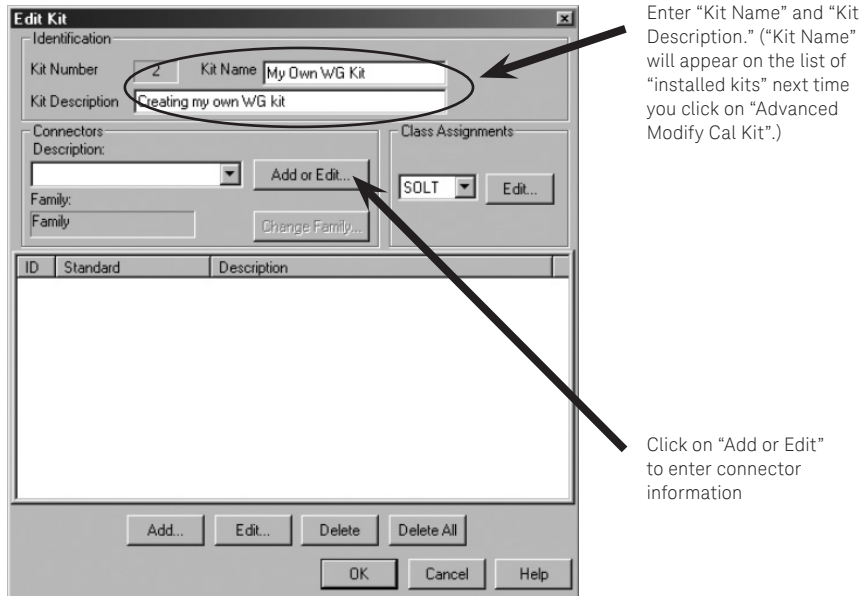

Figure 27. Enter calibration kit name.
2. Enter “Kit Name” and “Kit Description” and then click on “Add or Edit” to enter connector information (Figure 27)